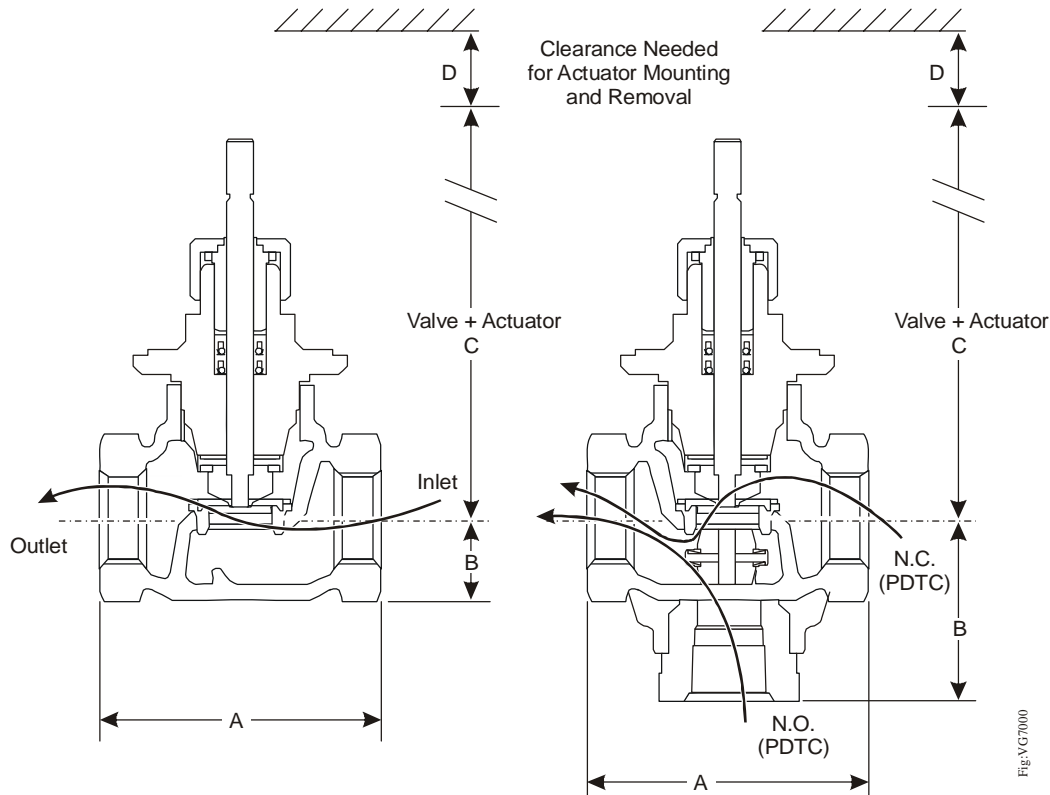

Figure 3: Two-Way and Three-Way Valve Dimensions
1. Dimension C is the overall height above the centerline of the valve body and dimension D is the clearance required for actuator removal (as illustrated in Figure 3).